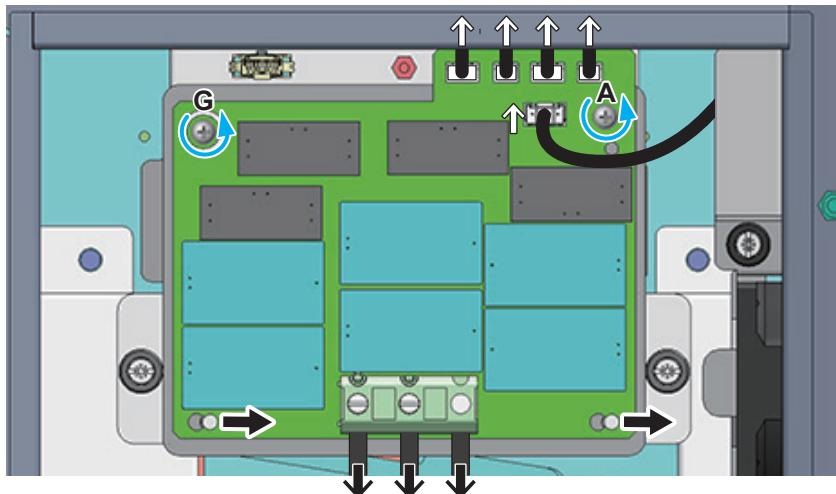

Figure 5-7: Remove wirings as connectors of AC SPD
- To remove the defective AC SPD (Figure 5-7)**
Tighten the five screws to a torque value shown in **Figure 5-7**.